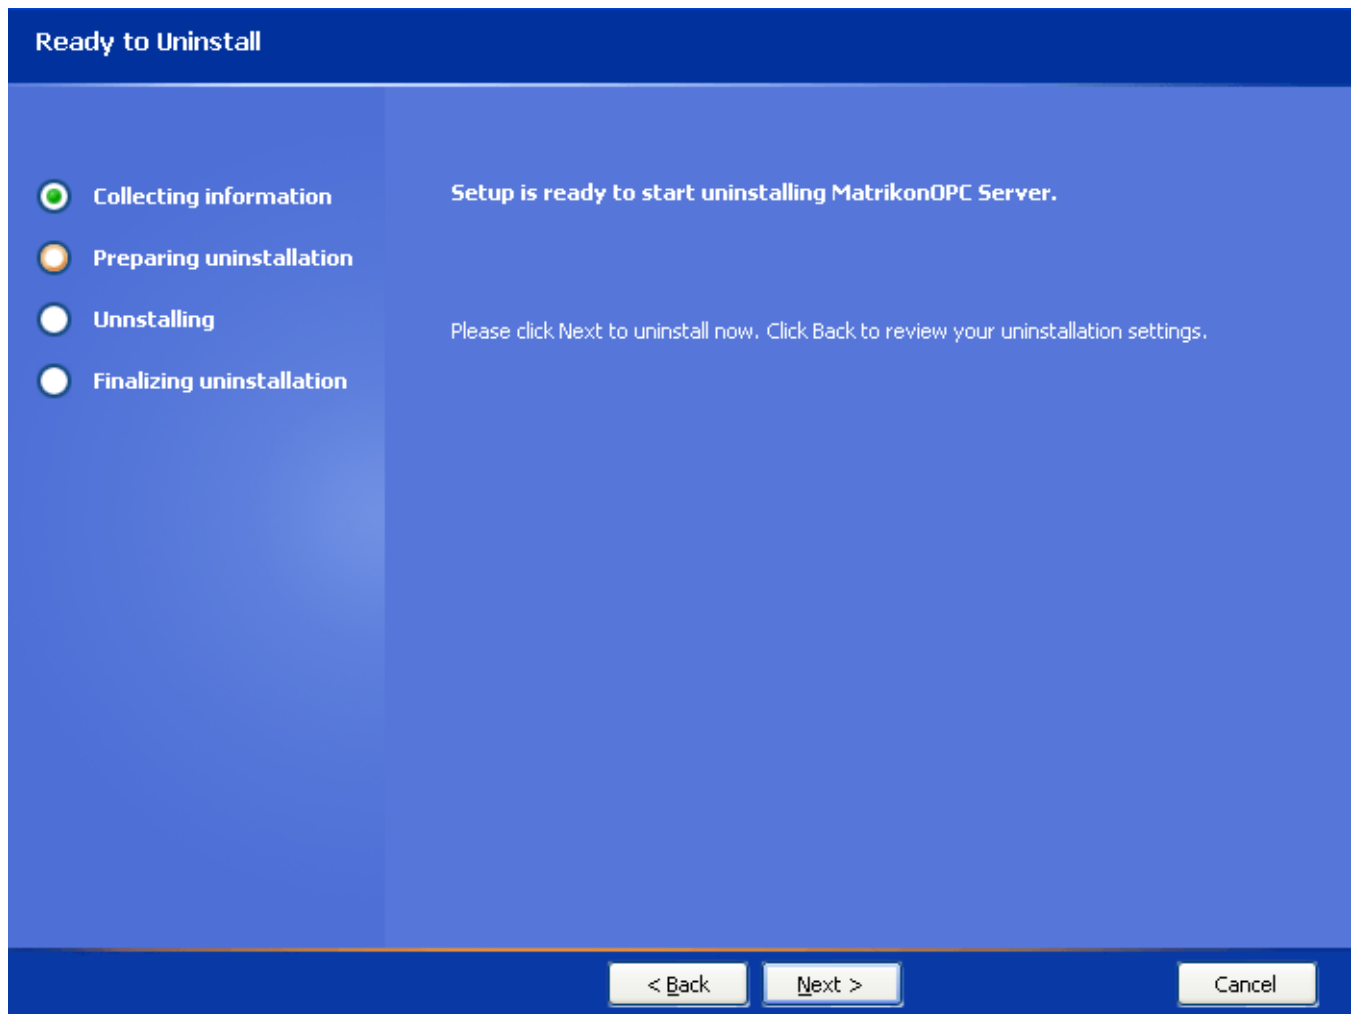

Figure 92 - Ready to Uninstall Screen
8. Click on the **Next** button. The **Ready to Uninstall** screen (Figure 92) is displayed.